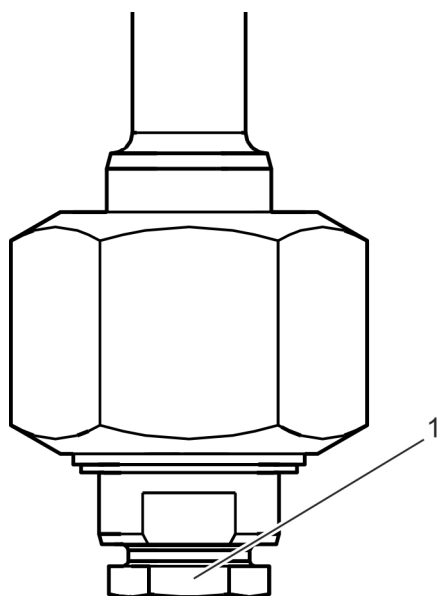

Fig. 20: Unscrewing the pressure screw.
- 12.** ➤ Unscrew the pressure screw (Fig. 20/1) using a size 27 spanner in an anticlockwise direction.